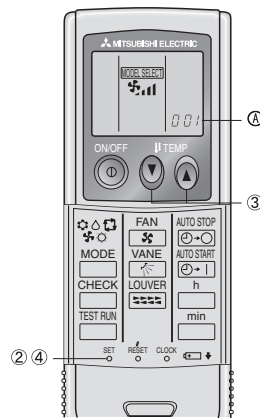

Fig. 6-6
3) Setting (Fig. 6-6)
- ① Insert batteries.
- ② Press the SET button with something sharp at the end. **MODEL SELECT** blinks and Model No. is lighted.
- ③ Press the temp. \odot \odot buttons to set the Model No. If you mistook the operation, press the ON/OFF \odot button and operate again from procedure ②.
- ④ Press the SET button with something sharp at the end. **MODEL SELECT** and Model No. are lighted for three seconds, then turned off.